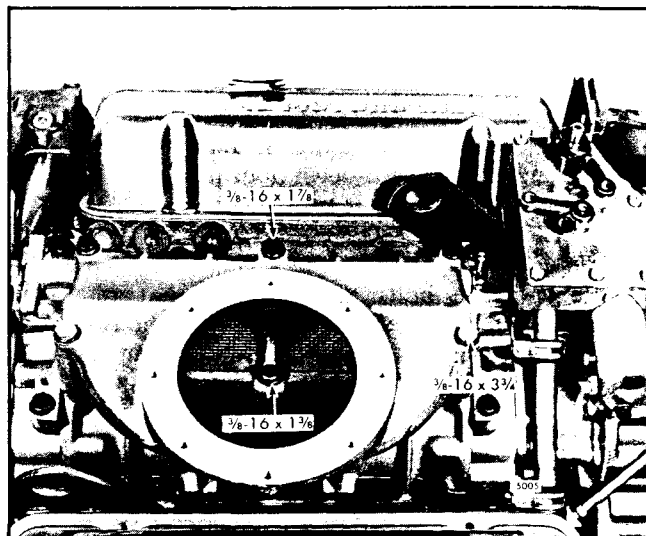

Fig. 4 - Location of Air Shut-Down Housing Mounting Bolts (6V Engines)
2. Refer to Fig. 4 and mount the air inlet housing on the blower and secure it with bolts, washers and lock washers. Tighten the bolts to 16-20 lb-ft torque.